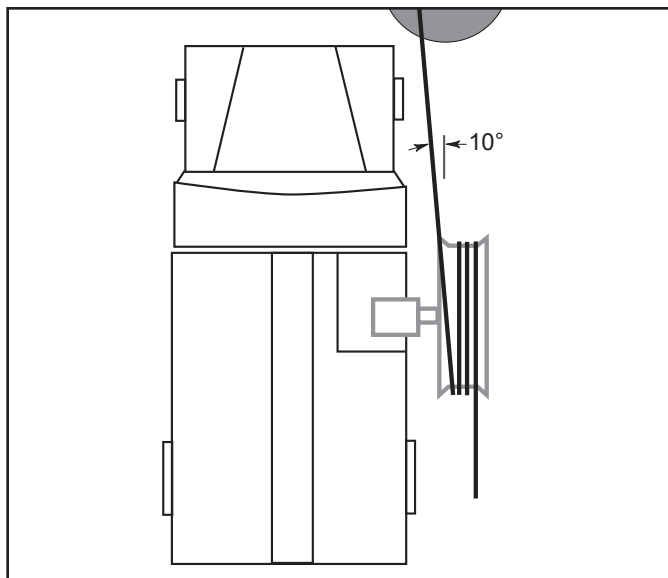

Figure 1. Capstan Positioning
2. Move the power source with drive shaft and capstan into its final position. The pull line will wrap best on the capstan if the capstan is angled about 10° away from the pull line (figure 1). This will allow the line to walk down the side of the capstan and push the previous wraps to the side.